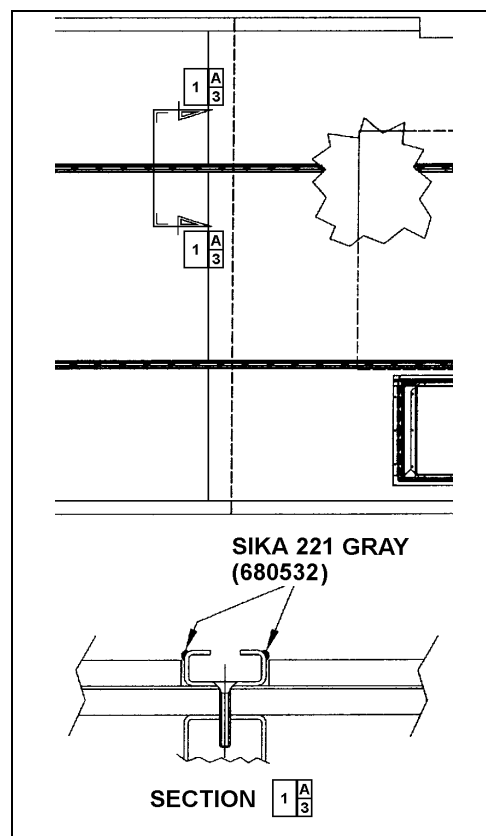

FIGURE 26: APPLICATION OF SIKA 221 GRAY
8. Apply Sikaflex 221 gray sealant (680532) alongside passenger seat fixing tracks (refer to figure 26).